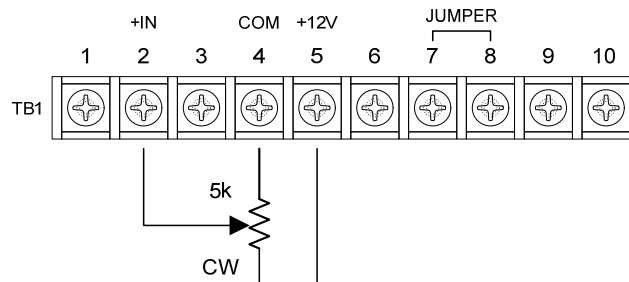

Figure 3.3 Remote Control with a Potentiometer
- a. With the power to the SHZF1 turned off, connect the potentiometer as shown in Figure 3.3. The CW position is the full power output position. Terminal TB1-5 is internally connected to a positive dc voltage source.